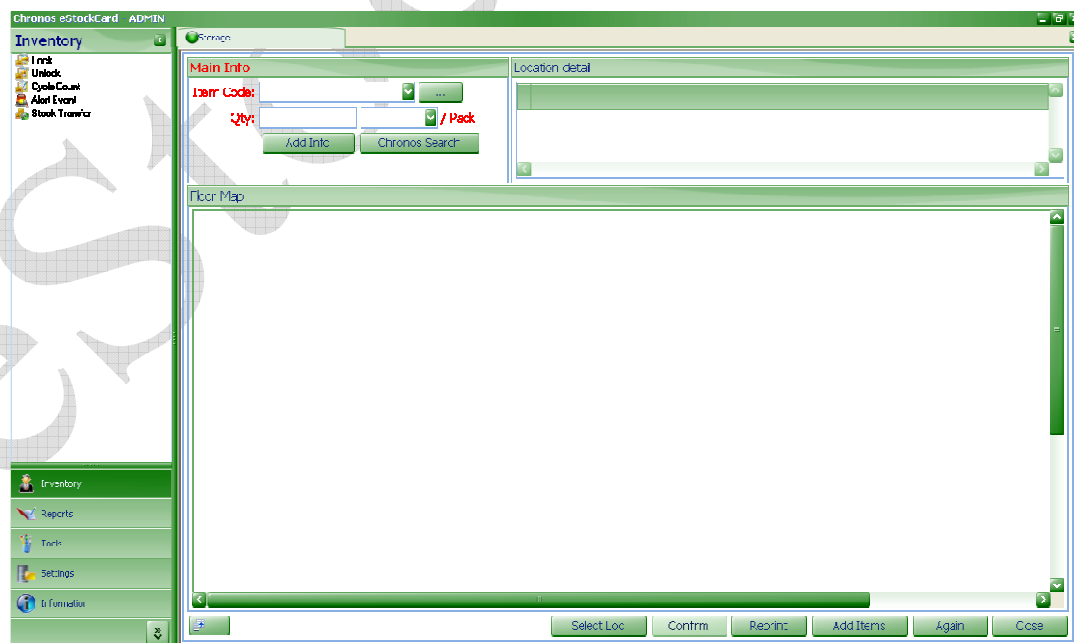

Fig. 28
Step 1 Launch IN operation by click Inventory > IN (Fig. 28)